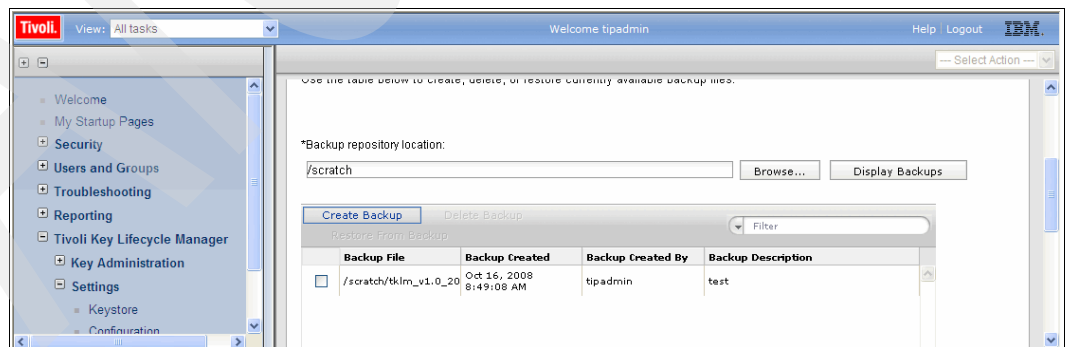

Figure 8-3 TKLM Backup/Restore
1. Select **Tivoli Key Lifecycle Manager** → **Settings** → **Backup and Restore** (Figure 8-3).